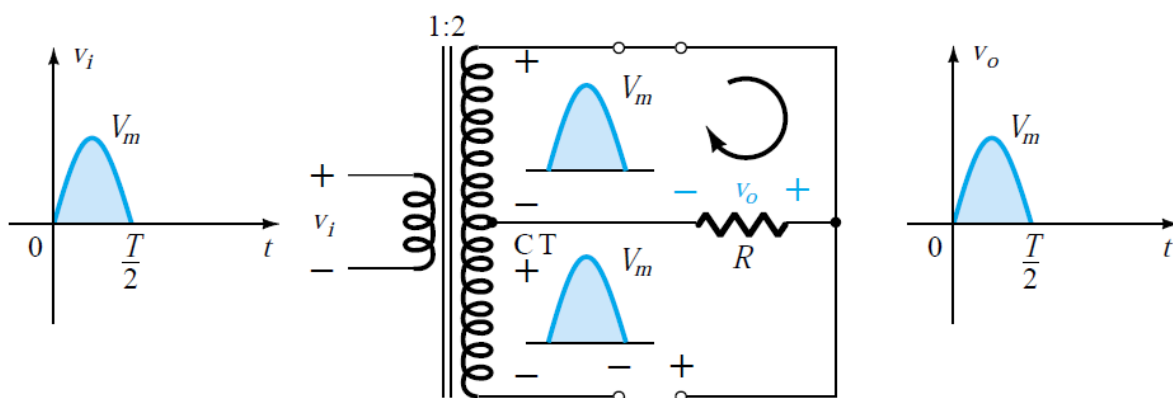

Figure 2.18: Network conditions for the positive region of  $v_i$ .
- During the positive portion of  $v_i$ ,  $D_1$  assumes the short-circuit equivalent and  $D_2$  the open-circuit equivalent. The output voltage appears as shown in Figure 2.18.